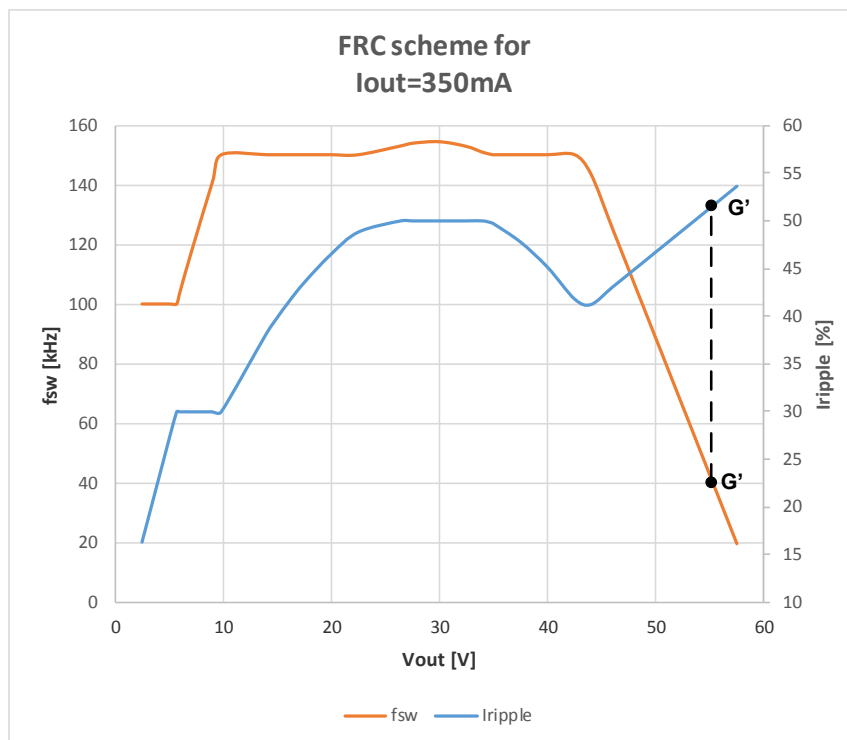

Figure 21. Operating Point determined by Toff_min criteria
¹ If the high voltage load is applied at the output (large number of LEDs, the output voltage is near the input voltage), the operating frequency will be low and if it falls below f_{sw_min} , the frequency-ripple controller will start to correct it by decreasing the ripple value, as described above. On the other hand, due to the high output voltage, T_{OFF} is quite short (see equation (11) on page 17). It is very important that the turn-off time must be longer than the predefined T_{OFF_min} time (constant T_{off_min} , see Table 3-19), because during that time all calculations must be performed before starting a new cycle. At that point, the frequency-ripple controller starts to increase the ripple again in order to meet T_{OFF_min} criteria. The final outcome is that the current ripple and switching frequency could stay outside the predefined limits (above I_{ripple_max} and below f_{sw_min} respectively) – point G' in Figure 21. If T_{OFF} falls below the minimum allowed value (low ripple means short T_{OFF} time for constant output voltage), the regulator cannot maintain the average current any longer, therefore influencing accuracy. If parameters are configured properly, any of above mentioned actions lead to stable operating conditions for the given current/load situation. However, there is drift in the operating frequency produced by the input voltage ripple that has to be taken into account when deciding on parameter values. The frequency ripple controller will always try to put the operating point into the operating area, but its final position will depend on the other criteria that affect its position.